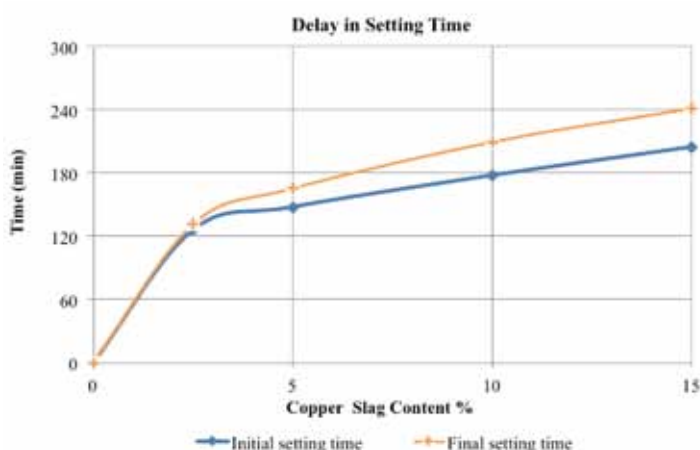

Figure 3.2: Delay Initial and Final Setting Time for Cement Paste
Figure 3.2 also highlights the delay in the setting time of the cement paste as the substitution level of pulverized CS increases. This observation could be due to delayed hydration induced by the heavy ions contained in the CS. This postulation is supported by Hashem et al., (2011). According to the authors, the presence of Cu (II) ions retards cement hydration. Zain et al., (2004) were also of the opinions that, the presence of Cu, Pb and Zn compounds in CS increases cement paste setting times